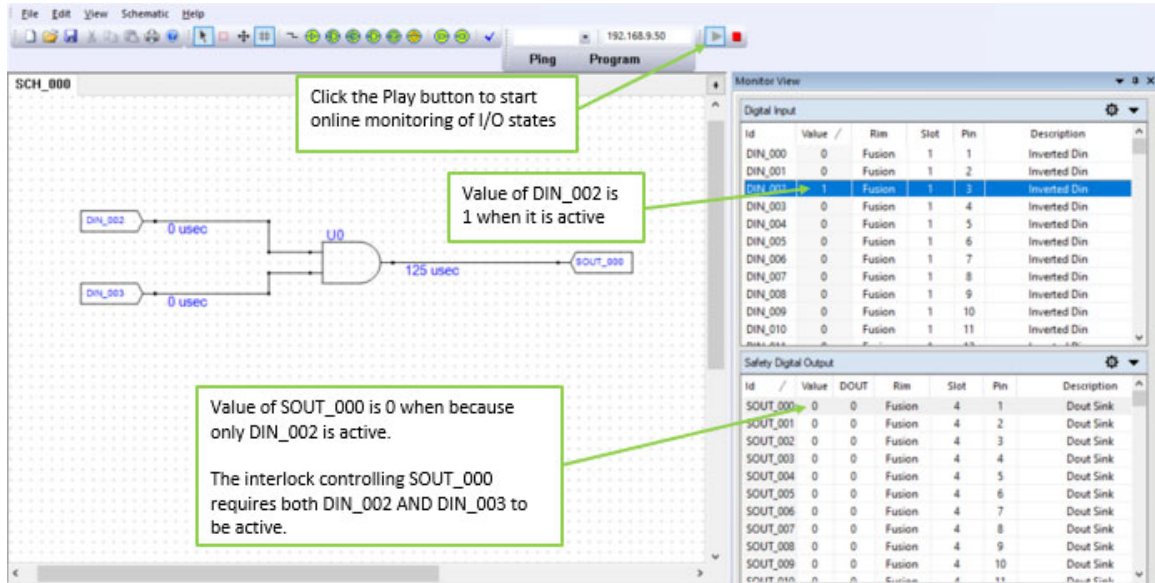

Figure 44 - Testing DIN_002
- a) Test DIN_002 (See Figure 44 - Testing DIN_002).